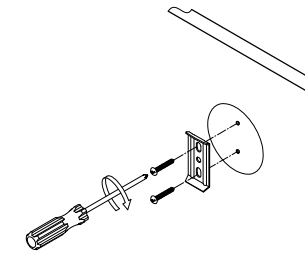

Fig. 5
- Step 4. Screw the mounting plate (with the lips facing out) to the wall with the mounting screws (fig 5). Ensure the curved end of the mounting plate is on top and the flat end at bottom before screwing on.